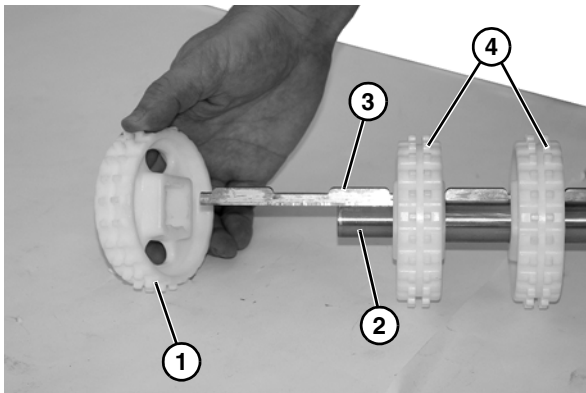

Figure 44
- Slide entire sprocket assembly slightly outward, and remove the first sprocket (**Figure 44, item 1**) off the drive spindle (**Figure 44, item 2**) and alignment bar (**Figure 44, item 3**).
- Remove remaining sprockets (**Figure 44, item 4**) off the alignment bar as you slide entire assembly off the drive spindle.
- Install second sprocket and subsequent sprockets (**Figure 44, item 4**) one by one, while sliding entire assembly onto alignment bar (**Figure 44, item 3**) and spindle (**Figure 44, item 2**).